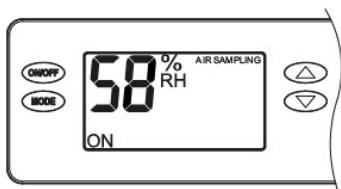

Fig. 3 – Air Sampling
3. The dehumidifier blower will turn on, the word SETTING disappears from the display, and the words AIR SAMPLING appear (Fig. 3). This wording indicates that the dehumidifier is sampling the air to determine if dehumidification is needed and shows the measured humidity level. If the control is already ON, lowering the setting will initiate air sampling.